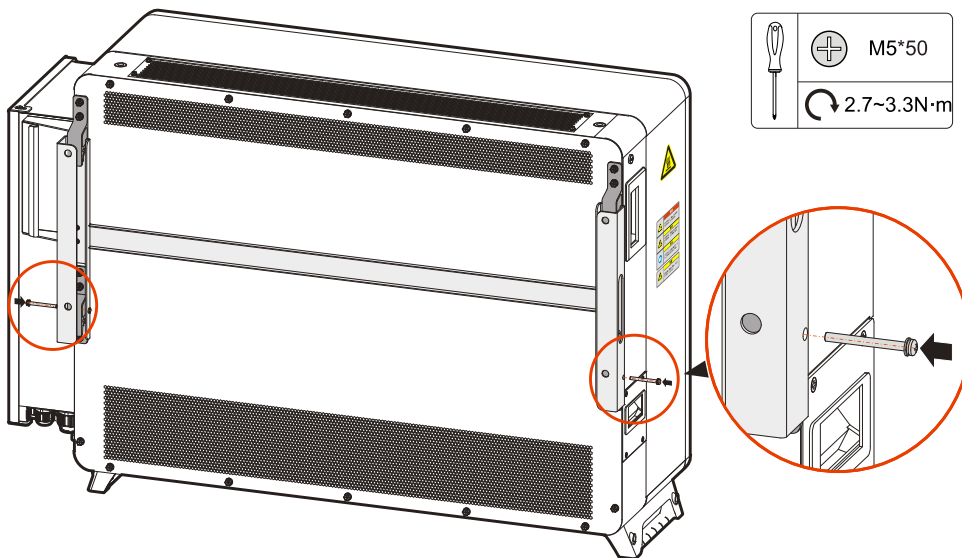

Figure3-25 Fix inverter
Step 7 Use the screws M5*50 in the accessories to fix the inverter, as shown in Figure3-25.